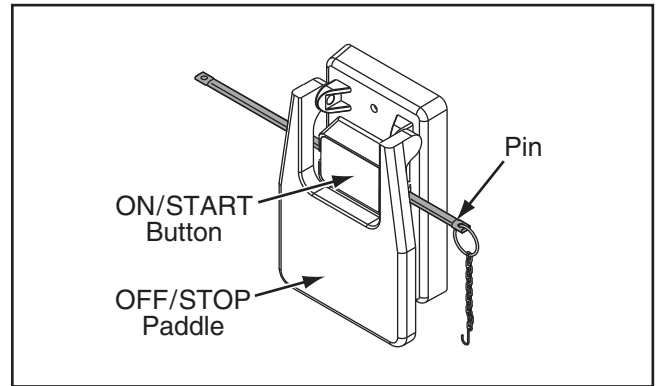

Figure 33. Switch disabling pin inserted into ON button.
4. Insert switch disabling pin through green ON button (see **Figure 33**).